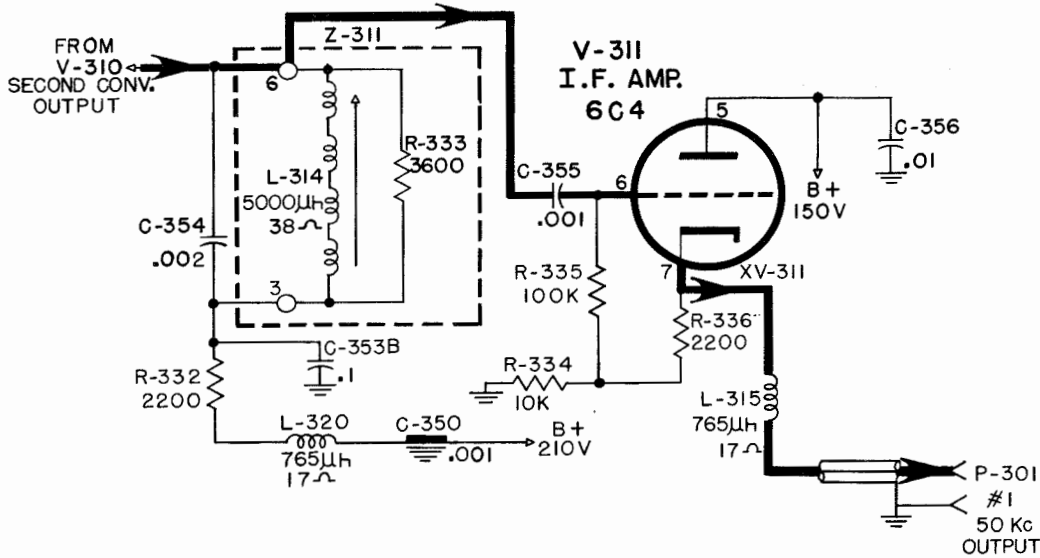

Figure 2-14. I.F. Amplifier V-311, Simplified Schematic Diagram
(6) I.F. AMPLIFIER V-311 (CV-126/FRR-24). (See Figure 2-14).—The output of Z-311 is capacitively coupled through capacitor C-355 to the grid of V-311 a type 6C4 tube. Plate voltage is applied directly from the voltage regulator tube bypassed by capacitor C-356. Inductance L-315 offers a high impedance to